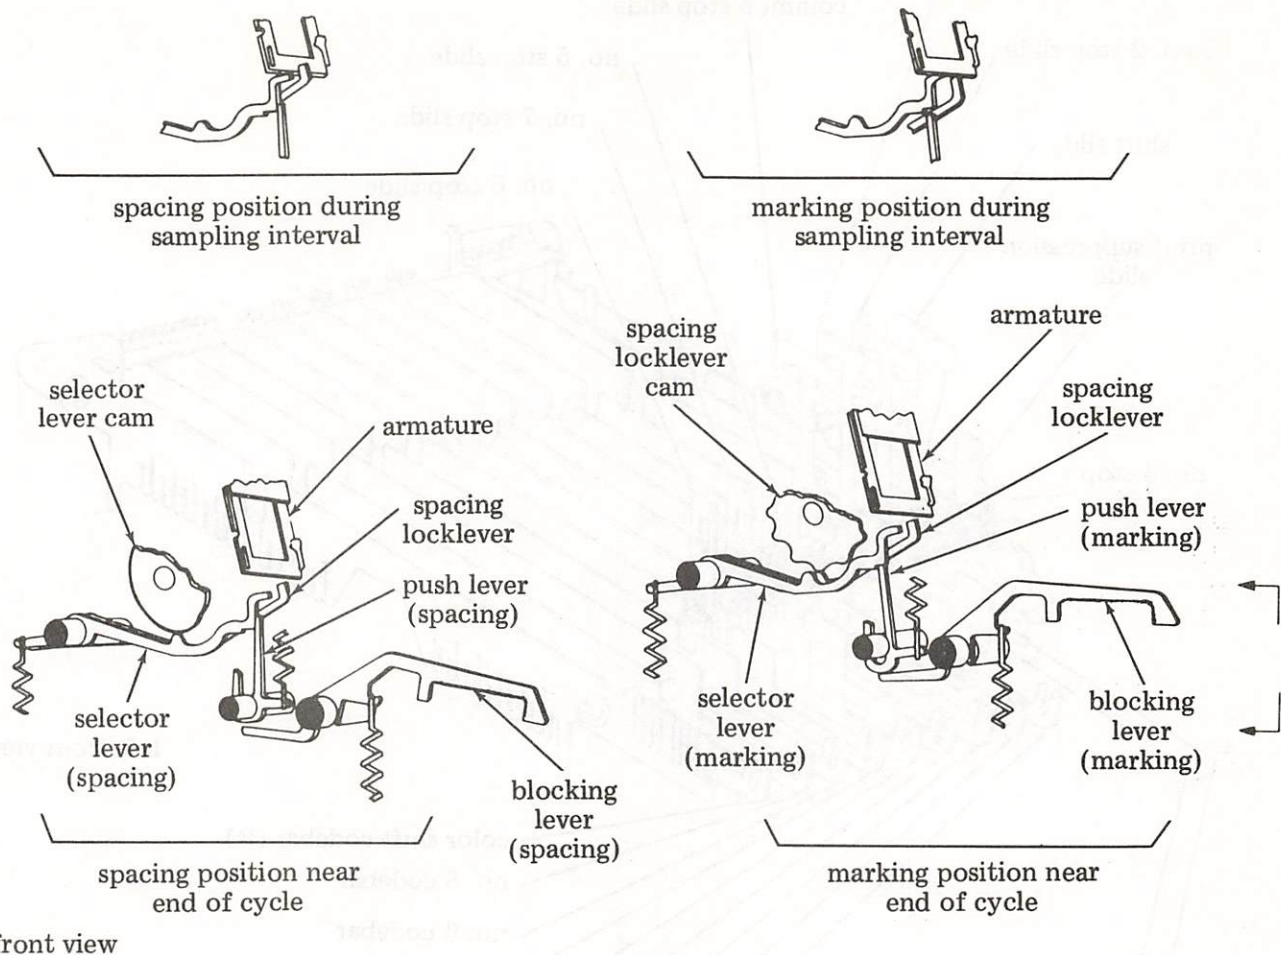

Figure 20 - Selector Mechanism
in this position during the sampling interval. The selector lever is prevented from moving up into the indent of its cam by the armature, and the push lever remains in its unselected (spacing) position in front of the selector lever (Figure 20).
4.39 As the code combination is received, each intelligence pulse is sampled in turn, and the corresponding selector levers and push levers are positioned accordingly. The contours of the selector cams are such that near the end of the cycle they drive the selector levers and selected push levers down to their marking position. In this position, the blocking levers with their slotted portions are up. The blocking levers associated with the unselected push levers remain in the spacing position in which their slotted portion is down (Figure 20).